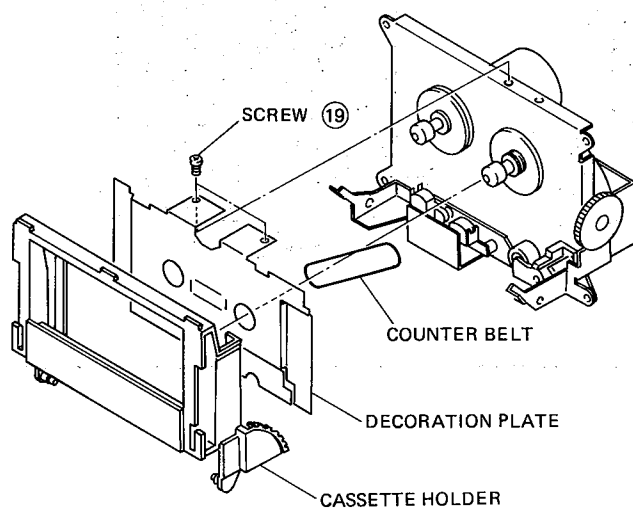

Fig. 10
- 2) When the Decoration Plate is removed by removing the 2 screws (19) shown in Fig. 10, the Counter Belt can be replaced.